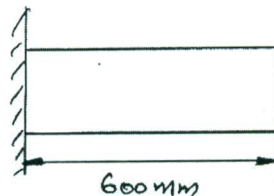

Fig.Q10(b)
b. Determine the natural frequency of longitudinal vibration of the bar shown in Fig.Q10(b). Take $E = 200\text{GPa}$; $\rho = 7840\text{ kg/m}^3$; $A = 240\text{mm}^2$. (10 Marks)